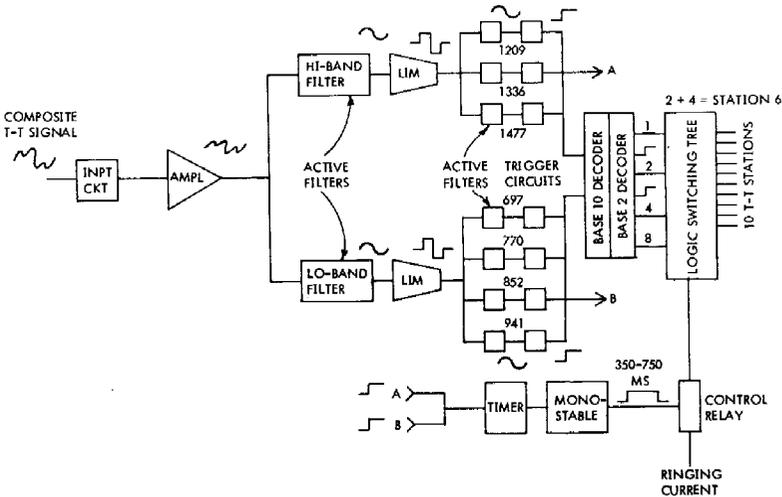

FIGURE 3. Block Diagram Illustrating General Operations.
- (1) The input circuit receives the dial signals and isolates them from the DC talking circuit.
- (2) The input amplifier adjusts all tones received to the same amplitude.
- (3) The high band filter and limiter and the low band filter and limiter separate the dual frequencies into their respective bands. (Each dual frequency signal consists of a high band frequency and a low band frequency. See Figure 3.)
- (4) The filter and trigger circuits, (one circuit for each of the seven frequencies which can be generated by the pushbutton dial). Channel each frequency into its proper function.